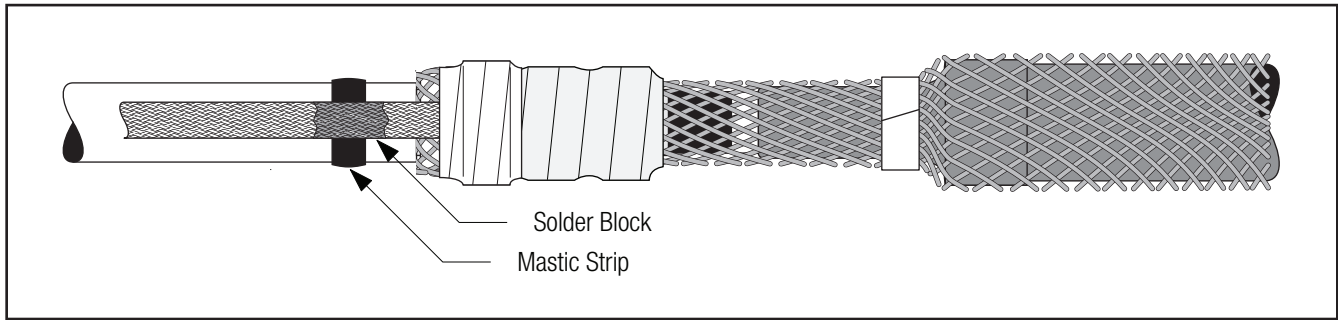

Figure 39
7.4 Place one mastic sealing strip on the cable jacket under the solder blocks of the ground strap (*Figure 39*).